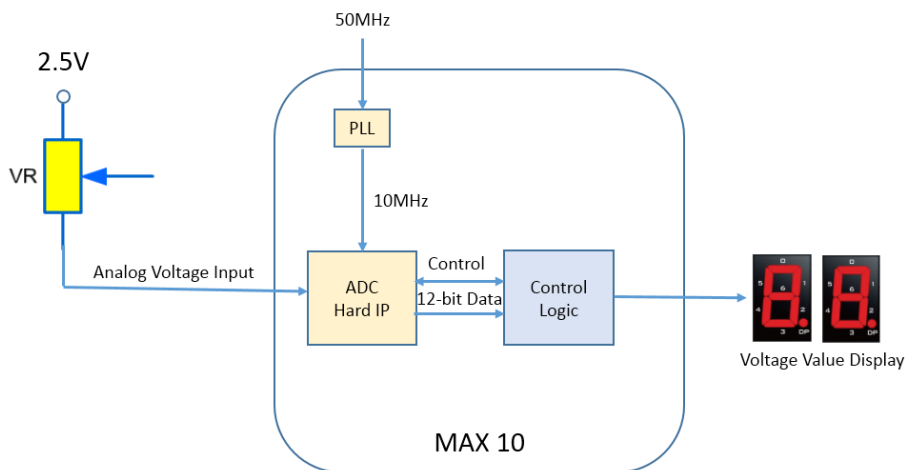

Figure 5-4 Block Diagram of ADC Potentiometer
The MAX 10 Plus board has a Variable Resistor (VR) onboard, which acts as a potentiometer in this demonstration. **Figure 5-4** shows the block diagram of Power Monitor demonstration. The ADC reference clock running at 10MHz is generated by PLL. It feeds into the ADC Hard IP in MAX10 device. The analog voltage input comes from the VR controls the voltage level. The control logic within the ADC Hard IP reads the digitized voltage data. It then converts the data and displays the level value on two 7-segments. Since none of the dot points of two 7-segments is connected to the MAX 10, so HEX1 and HEX0 shows the decimal point and the first digit after the decimal point respectively.